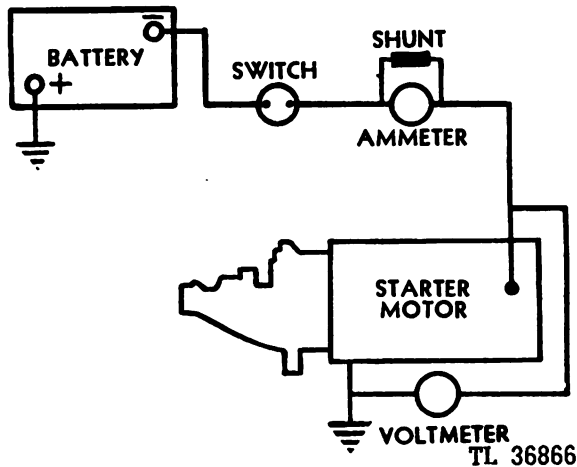

Fig. 214. Diagram—No-Load Test
b. **No-Load Test.** Connect the cranking motor in series with a battery of 24 volts and an ammeter capable of reading several hundred amperes. The armature r.p.m. can be checked with an r.p.m. counter. Figure 214 shows the hookup for the no-load test. The cranking motor should be fastened securely in a vise. At 3600 r.p.m. the ammeter should indicate 280 amperes and the voltmeter 21.8 volts.